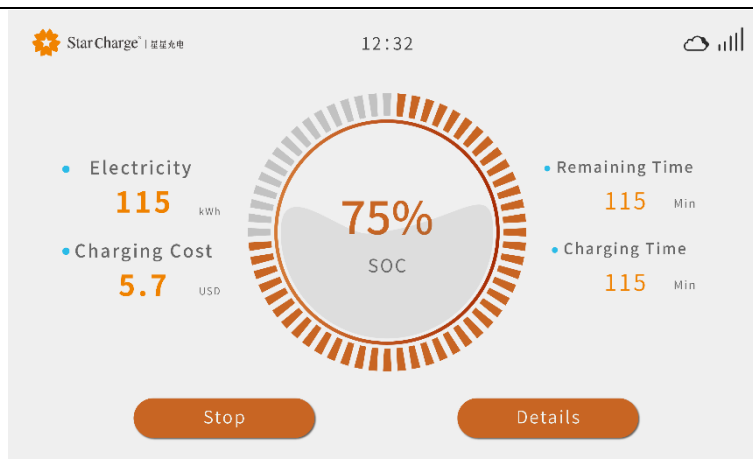

Figure 3-13 Charging interface
Step 4 During the charging process, the charging device screen displays the charging status interface. Click "Charging Details" to view the charging details of the device. At the same time, you can also view the charging details in the mobile APP, as shown in Figure 3-13 and 3-14.